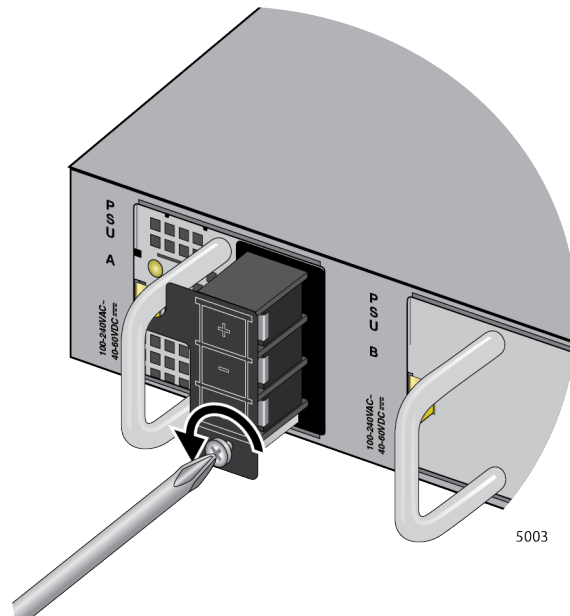

Figure 61. Loosening the Screw for the Panel
2. Loosen the screw for the connector panel several turns with a Phillips-head screwdriver. Refer to Figure 61 on page 128.